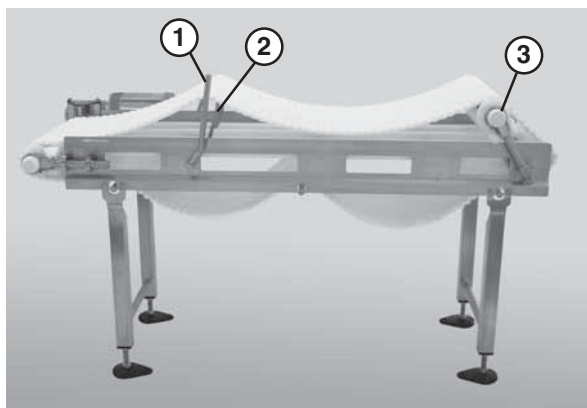

Figure 56
2. Use the lifter handle (**Figure 56, item 1**) to raise the lifters (**Figure 56, item 2**) and raise the tip up tail (**Figure 56, item 3**).